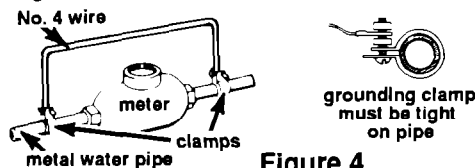

Figure 4
* Grounded, cold water pipe must have metal continuity to electrical ground and not be interrupted by plastic, rubber or other insulating connectors such as hoses, fittings, washers or gaskets (including water meter or pump). Any insulating, electrical connector should be jumped with a length of No. 4 copper wire securely clamped to bare metal at both ends as shown in Figure 4.